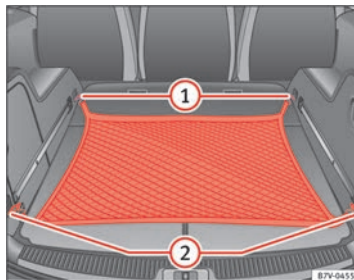

Fig. 101 In the luggage compartment: net used on secured baggage
- Hook the baggage net into the fastening rings ⇒ Fig. 101 ① and ②.
- Carefully unhook the baggage net hooks from the fastening rings ⇒ Fig. 101 ①.
- Carefully unhook the baggage net hooks from the fastening rings ⇒ Fig. 101 ②.